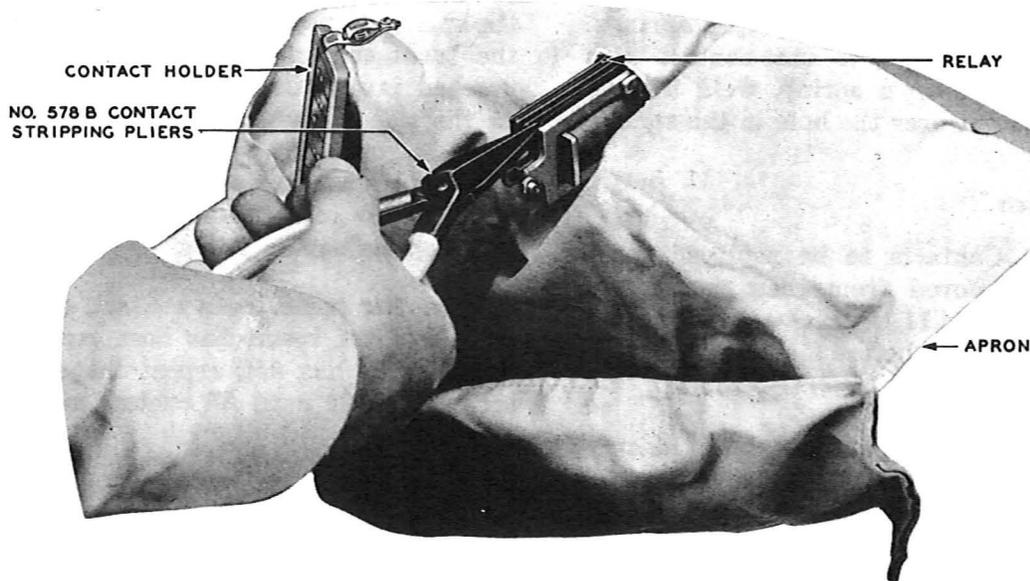

Fig. 6 – Removing Contact With No. 578B Contact Stripping Pliers
**4.09** To remove a contact from a spring, place the hooked jaw of the proper contact stripping pliers just back of the contact to be removed. Hold the pliers approximately in line with the spring as shown in Fig. 6, except on L-shaped springs of step-by-step relays where